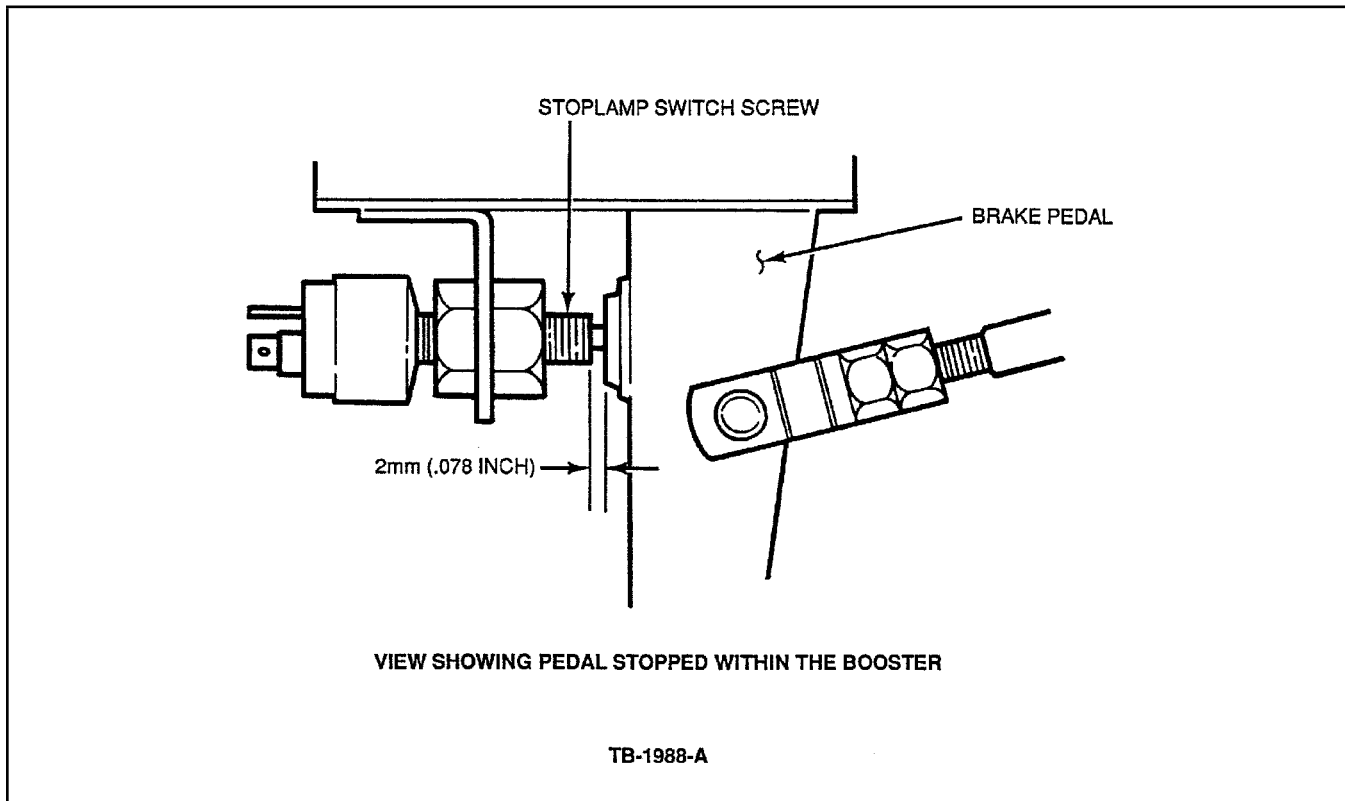

Figure 1 - Article 91-2-9
2. Using a 2.0mm spacer, check the distance between the stop lamp switch and the brake pedal rubber pad. Adjust as required, see Figure 1.